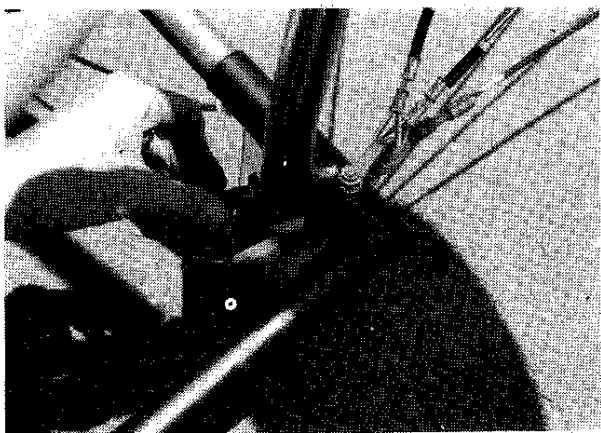

Figure 2.19
25. Attach right and left landing gear axle struts to 1" channels on each side of triangle bar cross-tube using 1/4" dia. T-handle pins and safety rings. **Figure 2.19**